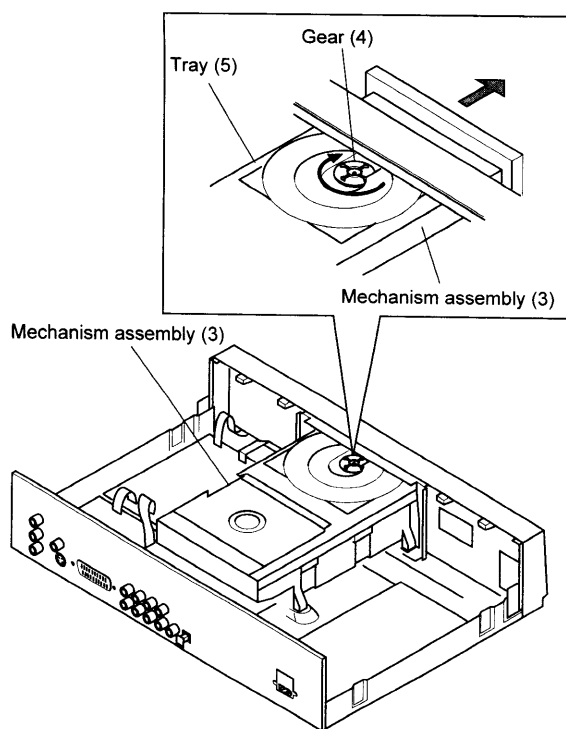

Fig. 2-1-3
- When mounting the mechanism shield cover (2), tighten four screws (1) with the cover lifted as much as possible, since a little gap is provided between the cover and the mechanism chassis.
2. Turn the gear (4) clockwise to eject the tray (5). (Refer to Fig. 2-1-3.)